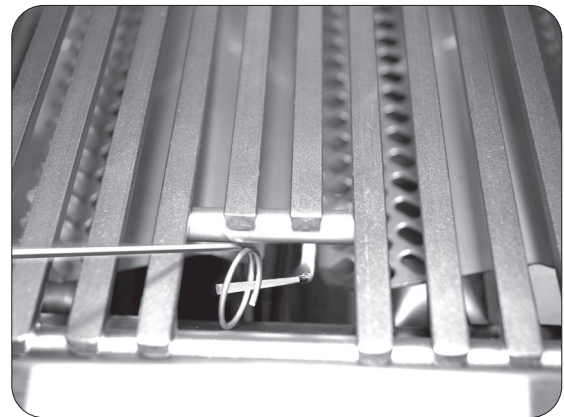

Fig. 31-2 - Manual lighting
**CAUTION:** Always wait five (5) minutes for gas to clear after any unsuccessful lighting attempt.
2. Insert either a burning long-barrel butane lighter, a burning long-stem match, or a burning match held by a wire extension holder through the cooking grid opening to the top of the burner (Fig. 31-2).
4. If the burner does not light within five (5) seconds of turning the control knob, **immediately depress the knob and turn the valve to OFF**. **WAIT FIVE (5) MINUTES** before repeating steps 2 through 4 of the **MANUAL LIGHTING** instructions.